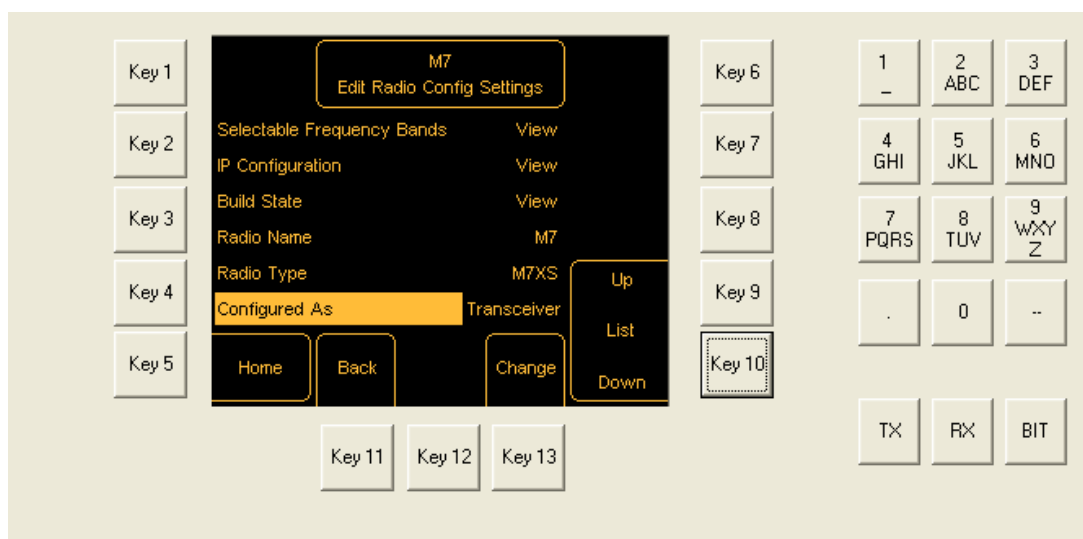

Fig 3-27 Edit Radio Config Settings Screen – Configured as Transceiver
- (2) Ensure the Edit Radio Config Settings screen is displayed (Fig 3-27).